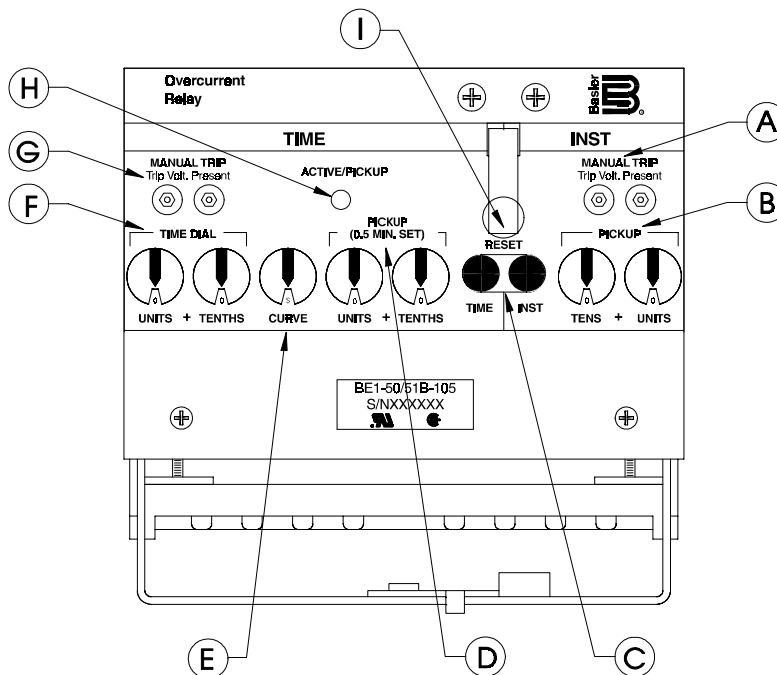

Figure 2-1. Location of Controls and Indicators
Table 2-1 lists and briefly describes the operator controls and indicators of the BE1-50/51B Overcurrent Relay. Reference the call-out letters to Figures 2-1 and 2-2.
*Table 2-1. BE1-50/51B Controls and Indicators (Refer to Figures 2-1 and 2-2)*